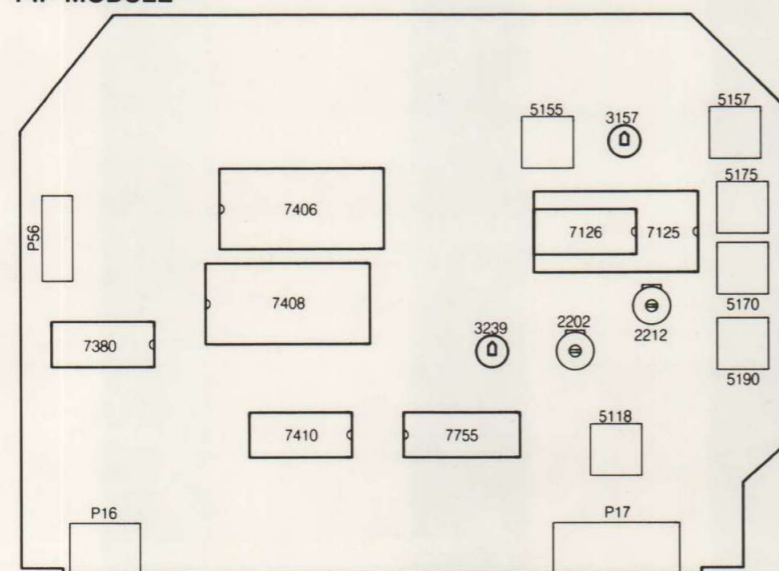

Fig. 7.4
3. Adjustments on the PIP module (Fig. 7.4)